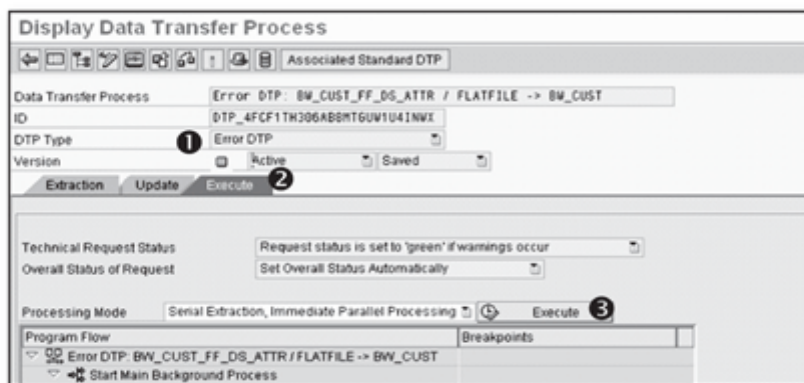

Figure 7.86 Executing Error DTP
Refer ❶ of figure 7.86 showing the DTP Type as Error DTP, now select the Execute tab (❷ of Figure 7.86), and start the execution of the error DTP by clicking the Execute button (❸).